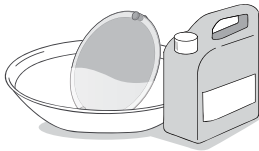

Figure 4.4
- To clean the splatter guard, soak it in a bowl with hot water and mild detergent. [Figure 4.4]